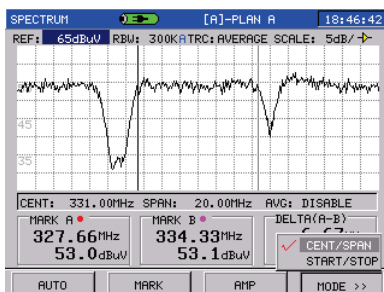
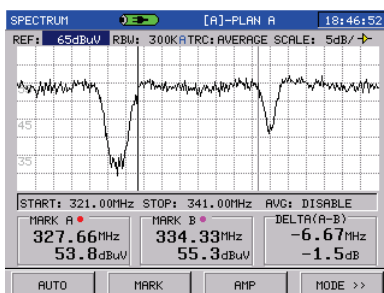

Figure 3-3-5
Figure 3-3-6
**MODE(F4):** DS2500C provides two ways of frequency setup to observe spectrum: Center frequency /span and start/stop frequency. Pressing MODE soft key, you can change frequency setup mode including center frequency/span and start/stop frequency. Center frequency/span mode is shown in Figure3-3-5, start/stop frequency mode is shown in Figure 3-3-6.